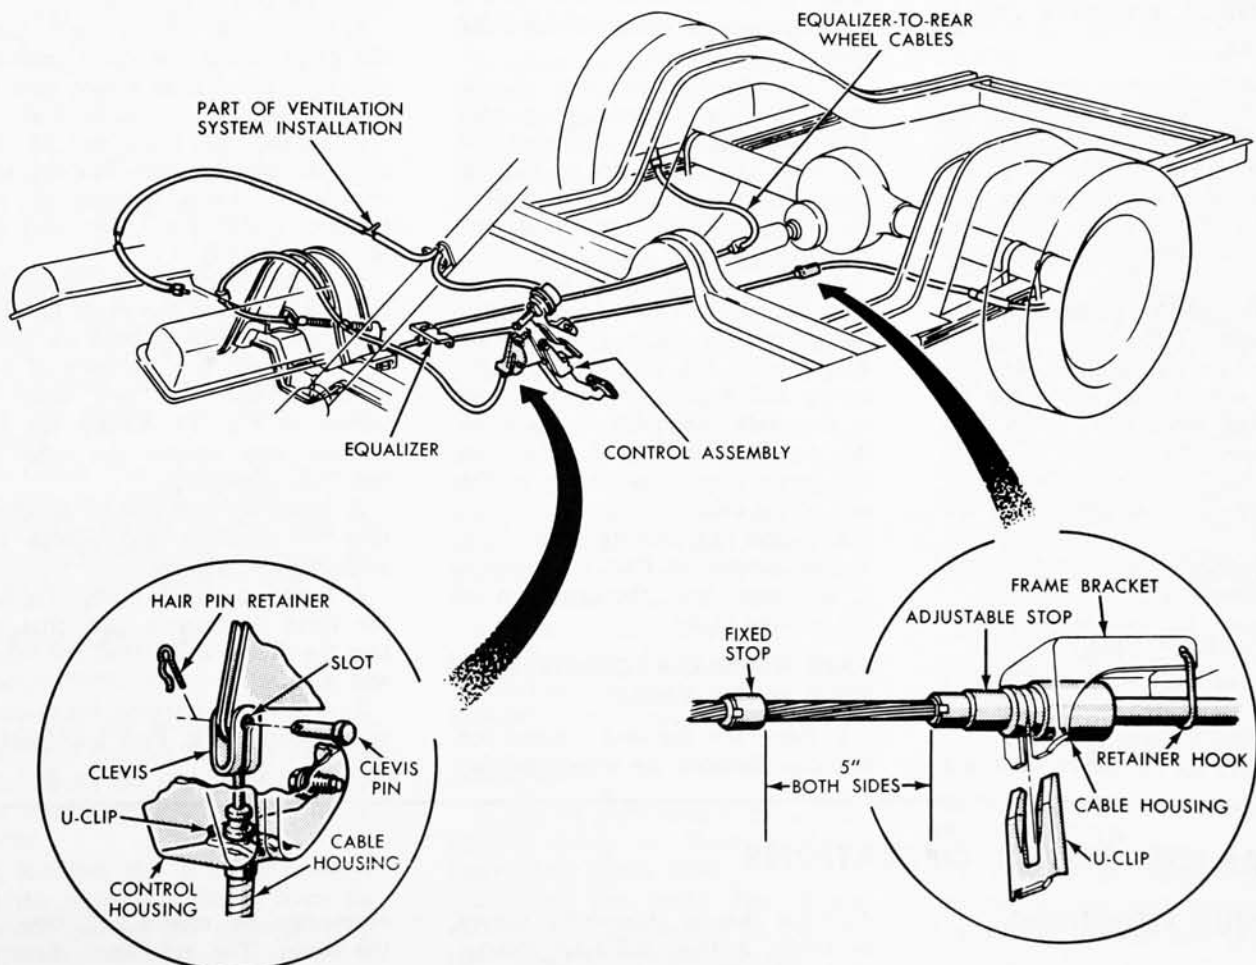

FIG. 15—Parking Brake System
5. Remove the U-clip that retains the cable housing to the parking brake control housing (Fig. 15).
1. Position the cable through the hole in the parking brake control housing. Install the clevis on the ball end of the cable and connect the clevis to the actuating arm with the clevis pin (Fig. 15). Secure the clevis pin with the hairpin retainer.
3. Position the cable through the hole in the parking brake control housing. Install the clevis on the ball end of the cable and connect the clevis to the actuating arm with the clevis pin (Fig. 15). Secure the clevis pin with the hairpin retainer.
4. Remove the U-clip that retains the cable housing to the frame bracket. Disengage the housing from the bracket and slip off the retainer hook (Fig. 15).
3. Thread the front end of the cable through the frame bracket, and engage the cable housing to the bracket. Install the U-clip and retainer hook (Fig. 15).
4. While holding the adjustable cable stop against the cable housing end, pull the cable through the housing until there is a distance of five inches between the two stops as shown in Fig. 15. Crimp the adjustable stop against the cable to hold this dimension.